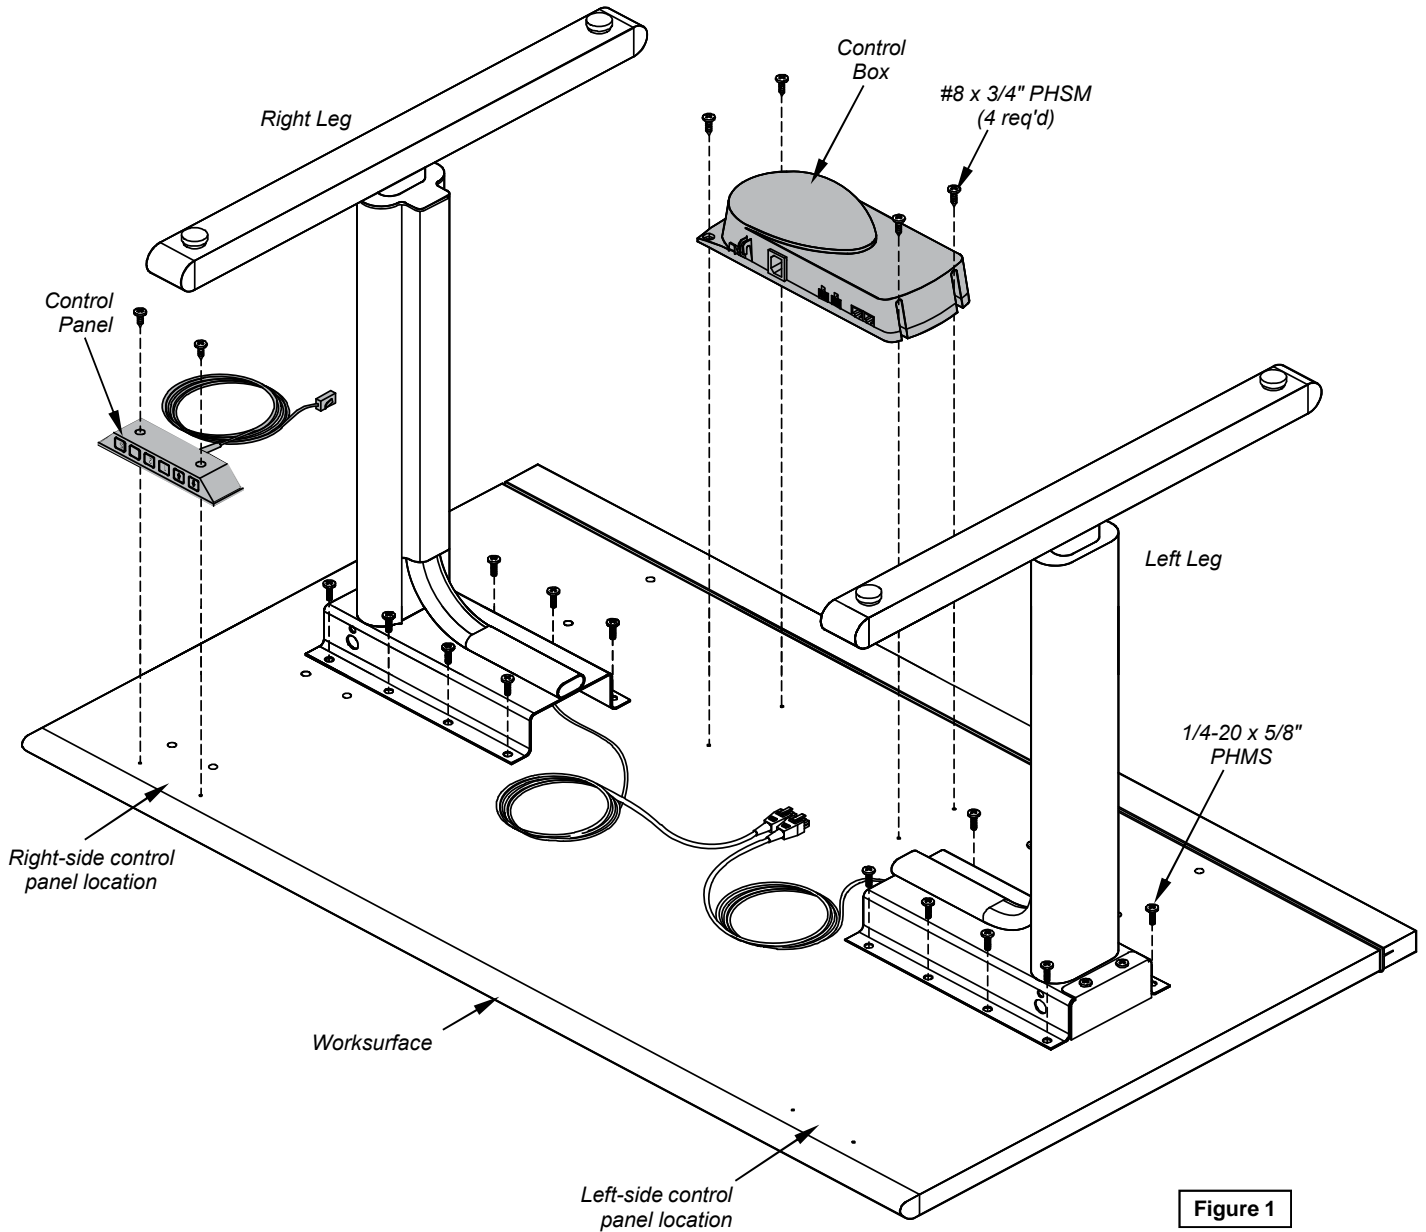

Figure 1
- A. Carefully flip the worksurface face-down onto a non-abrasive surface. **Figure 1.**
- B. Attach each leg to the worksurface using (8) 1/4-20 x 5/8" PHM screws.
- A. Attach the control box using (4) #8 x 3/4" PHSM screws and the pre-drilled holes. **Figure 1.**
- C. Attach the control panel using (2) #6 x 1/2" PHSM screws and the pre-drilled holes.